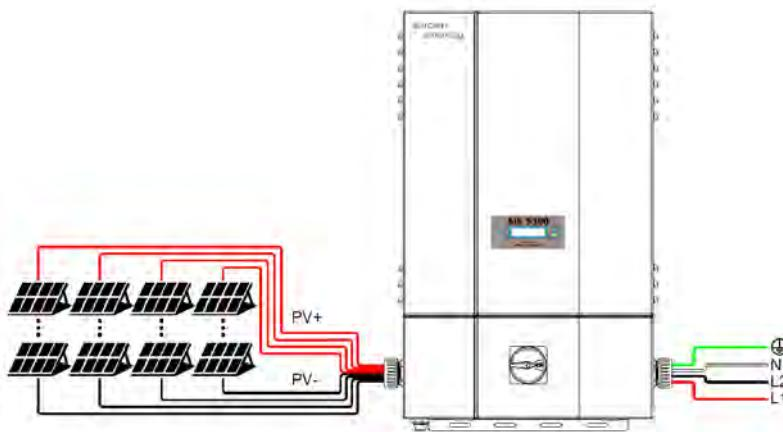

Fig 2.3.2.2 PV- terminal connection
Up to four (4) independent PV strings (4 pairs) can be connected to the SiE Inverter as shown in the figure 2.3.2.2. The PV strings will be connected in parallel in the wiring box.